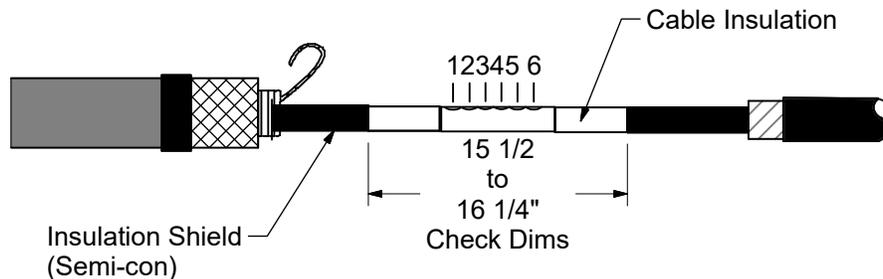

Figure 4
- A. Before shearing bolts, confirm that the dimension between semi-con cutbacks is between 15 1/2" and 16 1/4" for proper placement of the splice body. See Figure 4.
- E. Tighten the shear bolts by hand until they are snug against the conductor. Complete the installation by tightening and shearing the bolts in the sequence shown in Figure 4. Use an 8mm hex socket (85-32-776). Install the plastic caps over the shear bolt holes.